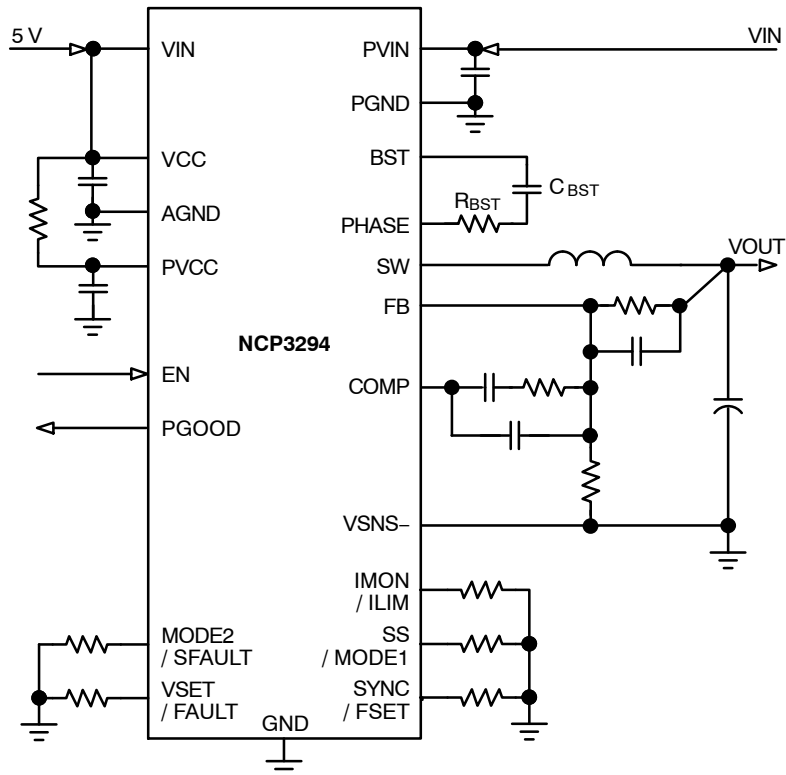

Figure 2. Typical 12 VIN, 25 A Application Circuit with External 5 V VCC Supply (LDO Disabled)
5. Operation at <4.5VIN requires external 5 V supply be applied to the VIN and VCC pins per Figure 2.